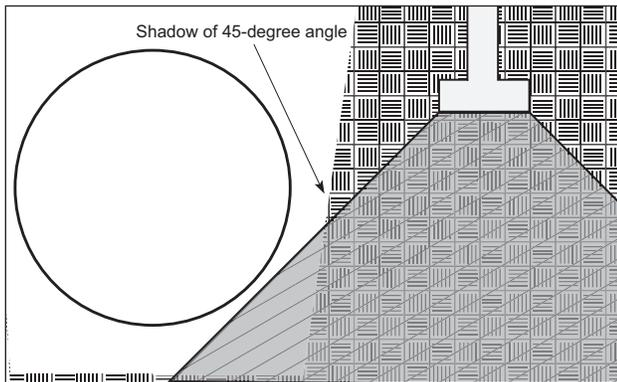

FIGURE 6-6
6.4.1. The location of a tank can be affected by the location of nearby structures. When selecting a tank site, care must be taken to avoid undermining the foundations of existing structures or new buildings to be constructed. (See FIGURE 6-6.)
6.4.2.4. The tank must not fall within the “shadow” of the 45-degree-angle line drawn from the foundation’s footing. (See FIGURE 6-6.)